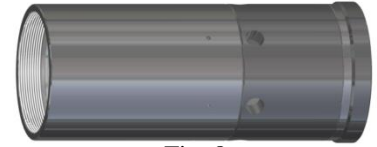

Fig. 8
K-8.5) Screw seal retainer (19) into center coupling (10) (Fig. 8).
K-8.6) Screw gage ring (29) onto seal retainer (19) (Fig. 8).
K-8.7) Screw center coupling (10) into by-pass housing (20) (Fig. 8).